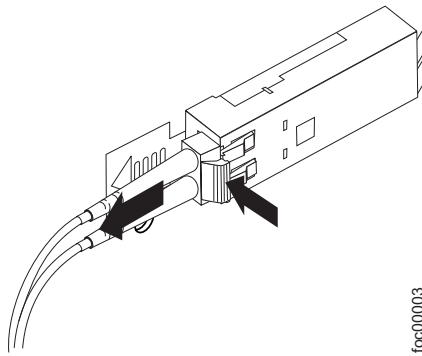

Figure 20. Removing a fiber-optic cable
2. Carefully pull on the connector to remove the cable from the SFP module, as shown in Figure 20.